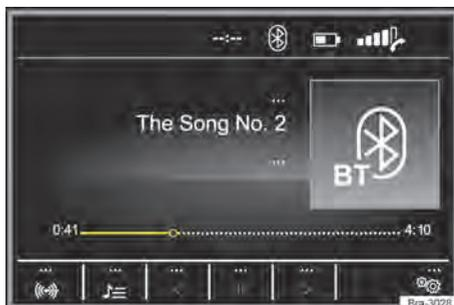
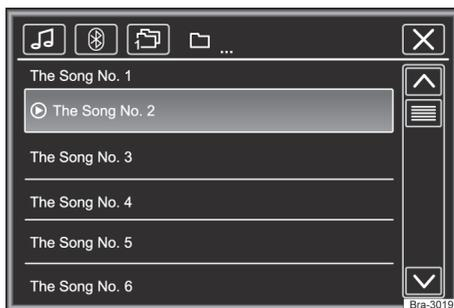

Fig. 142 Media main menu.
Fig. 143 Radio operation: station list.
- Press the **MEDIA** button to open the **MEDIA** main menu → Fig. 142.
Currently played media source is shown in the lower left function button pad → Fig. 142.
Caption for → Fig. 142 and → Fig. 143: